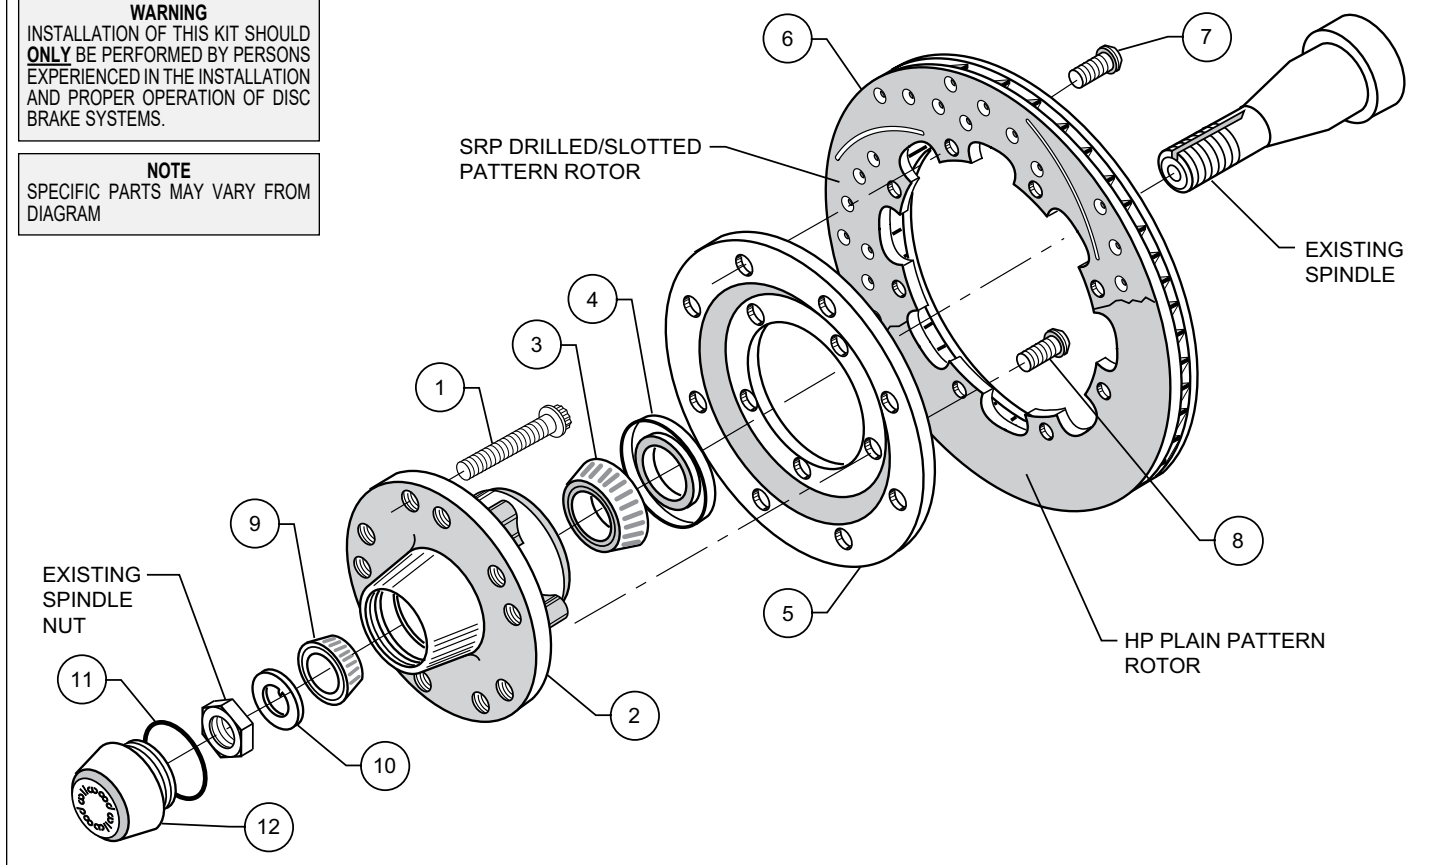

Figure 1. Typical Installation Configuration
**NOTE:** Numbers in parenthesis refer to the parts list and Figure 1 on the preceding page.
- Install wheel studs (1) into the hub (2). Torque to 77 ft-lb. **NOTE:** There are two five lug patterns in the hub (5 x 4.50 and 5 x 4.75). Make sure of the correct hole pattern for the correct wheel application before installing studs into hub.
- Pack the large inner bearing cone (3) with high temperature disc brake bearing grease (available from your local auto parts store) and install into the backside of the hub (2).
- Install the grease seal (4) by pressing into the backside of the hub (2).
- Orient the rotor (6) and the rotor adapter (5) as shown in Figure 1. Attach the rotor to the adapter using bolts (7). Using an alternating sequence, apply red *Loctite*® 271 to the threads, and torque to 25 ft-lb.
- Mount the adapter/rotor assembly (5/6) to the hub (2) using bolts (8), as shown in Figure 1. Using an alternating sequence, apply red *Loctite*® 271 to the threads, and torque to 45 ft-lb.
- Pack the small outer bearing cone (9) with high temperature disc brake bearing grease and install into front of hub (2). Slide the hub/rotor assembly (2 and 6) with outer bearing cone onto the spindle. Secure using spindle washer (10), stock adjusting nut and nut locking device. Adjust bearings per Original Equipment Manufacturer (OEM) specifications.
- Install the dust cap (12) onto the hub (2) with a new o-ring (11). Friction created by the o-ring (11) on the dust cap (12) keeps it from unscrewing. The O.D. of the spindle washer may be larger than the I.D. of the dust cap not allowing it to seat against the hub face. Some grinding on the washer O.D. may be necessary to clear the I.D. of the dust cap.